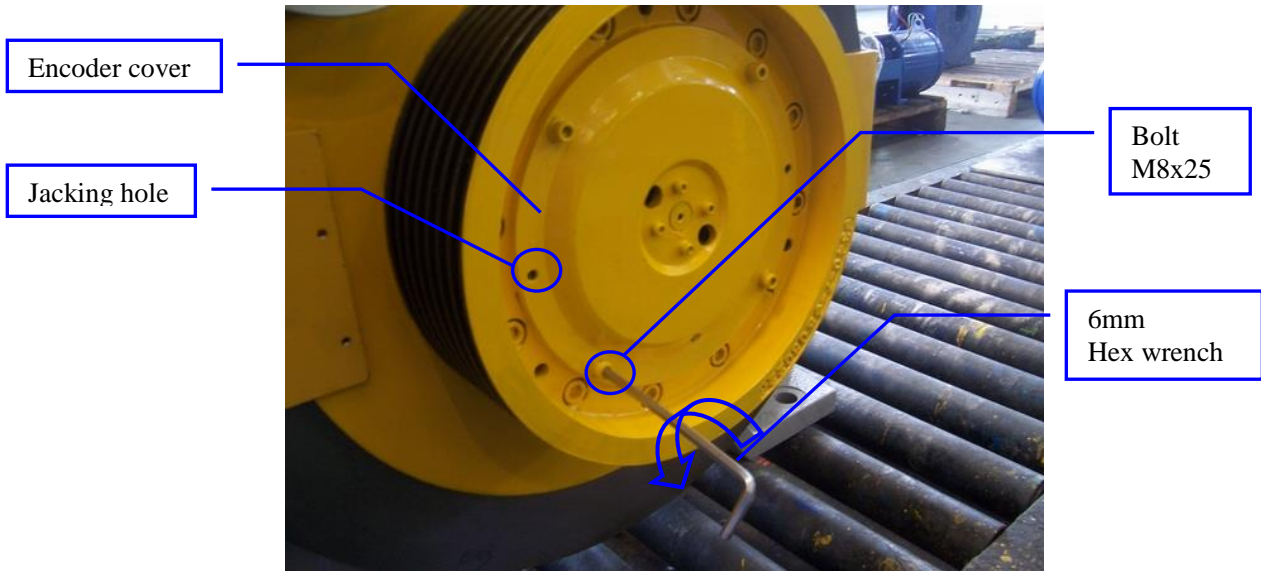

Figure 10: Remove Encoder cover
4. Remove the four bolts (M8x25) using the hex wrench (6mm). See Figure 10.